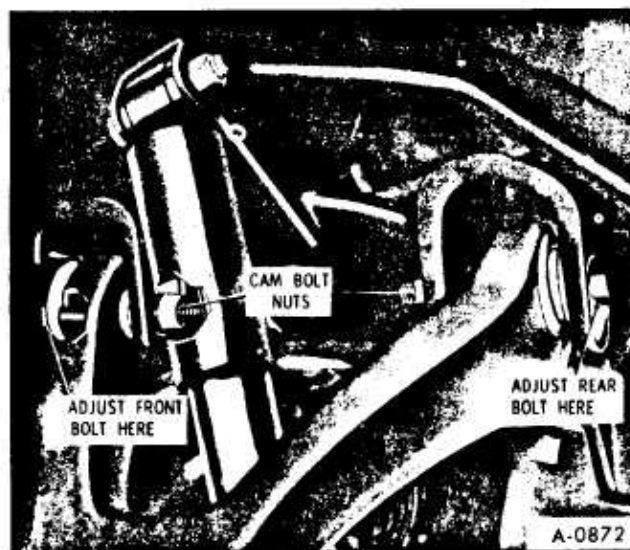

Figure 18-Upper Control Arm Attachment
2. Disconnect upper shock absorber attaching bolt. (figure 18)